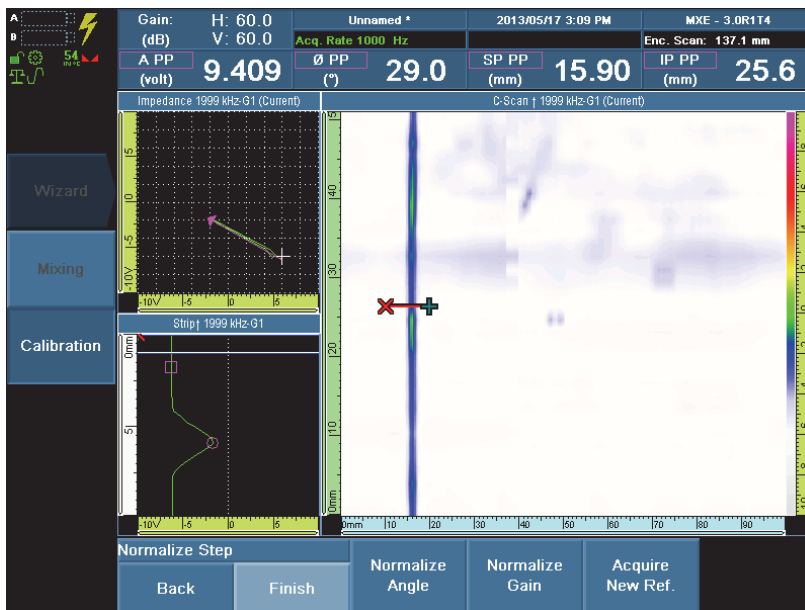

Figure 10-10 Normalizing the angle and the gain
18. Select **Normalize Angle** to perform an angle normalization (the selected signal is rotated until it reaches the **Angle** parameter value that was previously set in the **Acquisition Step**) [see Figure 10-10 on page 187].